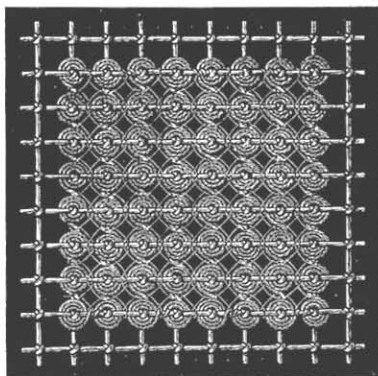

Fig. 48. Ground of little wheels and buttonhole stitch.
**Ground consisting of little wheels and loop stitches** (fig. 48). — With a coarse thread finish the wheels, only over the bars, throughout the whole surface of the net. Then, with the fine thread surround them with loop stitches, worked in rows, as shewn in figure 20.